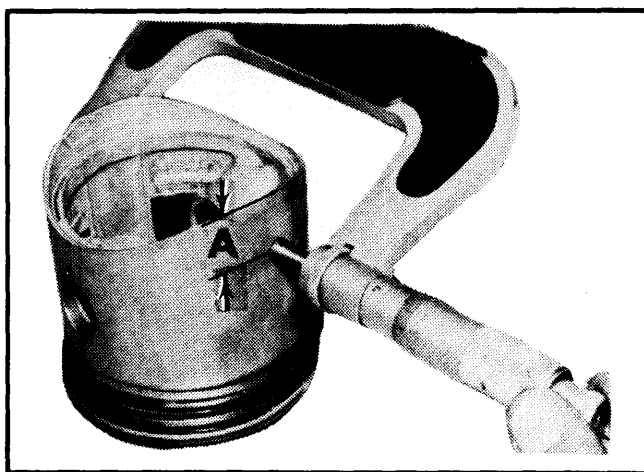

Fig. 10 Measuring Piston Diameter
1) With piston removed and disassembled from connecting rod, measure diameter of piston. Measure with micrometer positioned 90° from pin hole and at a point measured from bottom of piston skirt. (Distance "A" in Fig. 10.)